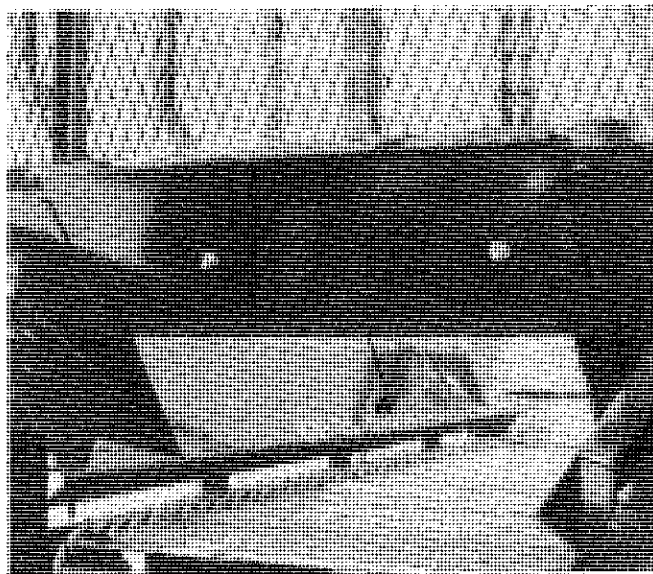

FIGURE 32 - TANK DISCHARGE GATE
A sliding gate (A) is provided in the tank discharge opening. This can be raised or lowered to vary the beet discharge rate from the tank for various beet sizes, unloading speeds and operating conditions (see figure 32).